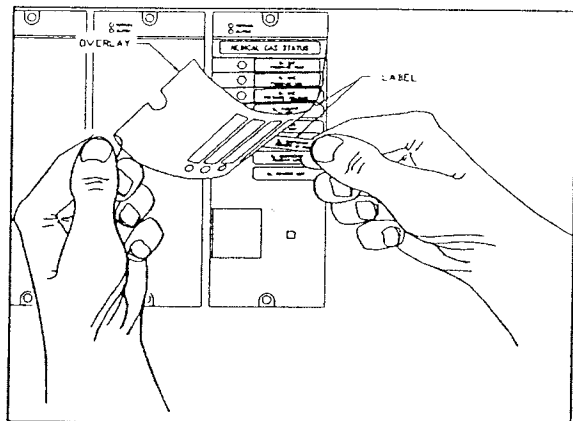

Figure 15 – Label Installation
- 4.2.11.2.2 Lift the overlay of each Pressure/Vacuum Module and label it with the appropriate Gas Service Label (see Figure 15). Double-sided tape is provided at the bottom of the module, the installer is to remove the protective cover off the tape, then press down on the overlay.
- 4.2.11.2.3 Lift the overlay of each Eight-Signal Module (see Figure 15) and label it with the Main Eight-Signal label and the Remote Signal Labels. Double-sided tape is provided at the bottom of the module, the installer is to remove the protective cover off the tape, then press down on the overlay.